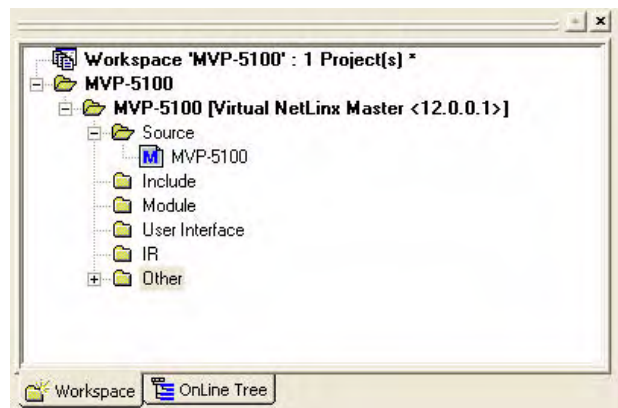

FIG. 78 NetLinx Studio Workspace Tree
2. Open the NetLinx Workspace (FIG. 78).